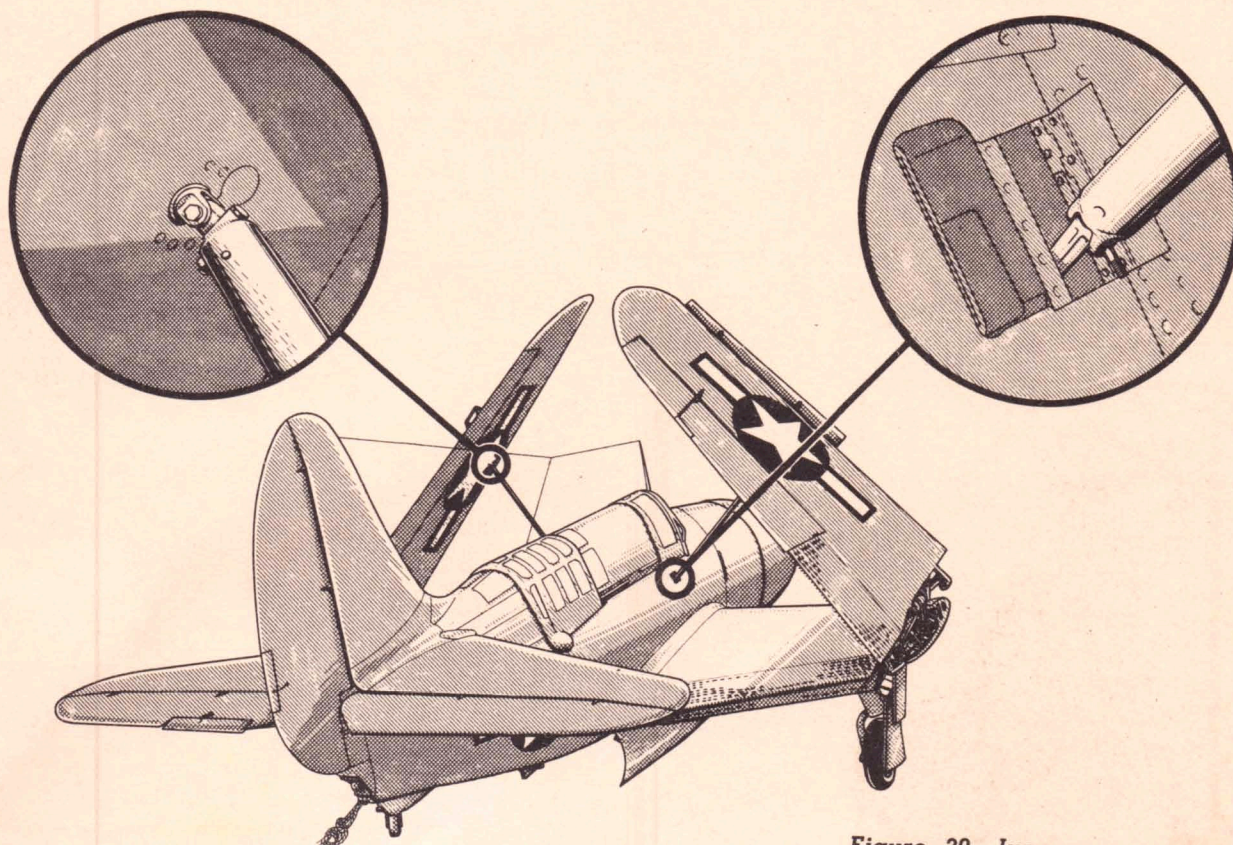

Figure 30—Jury
b. INSTALLING JURY STRUTS.—If the airplane is to be parked with the wings folded, the jury struts must be installed. Swing back the cover plate over the fitting in the outer panel. (See figure 30.) Insert one end of the jury strut in the fitting and turn the strut one-quarter turn clockwise. Then open the little door over the fitting in the fuselage, swing out the fitting and attach the other end of the strut to it as shown in figure 30.